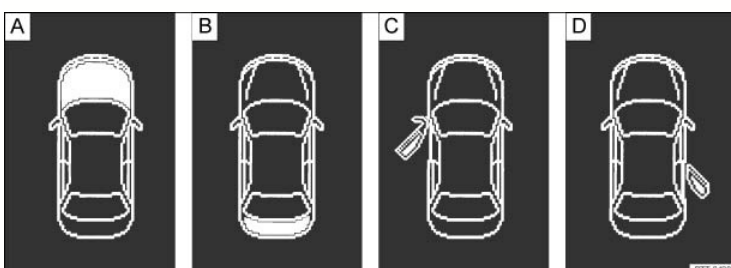

Fig. 10 In the instrument cluster display: A: Open engine hood, B: Open trunk lid, C: Open front driver side door, D: Open rear passenger side door.
- Open door, engine hood, or trunk lid ⇒ Fig. 10